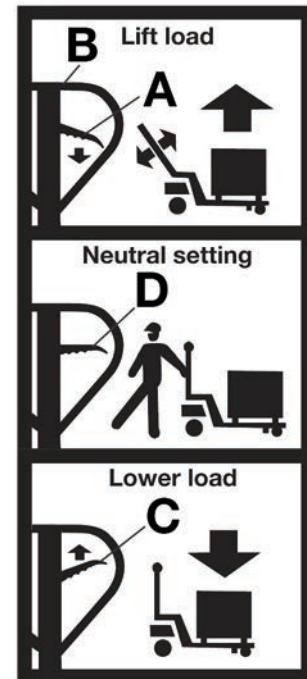
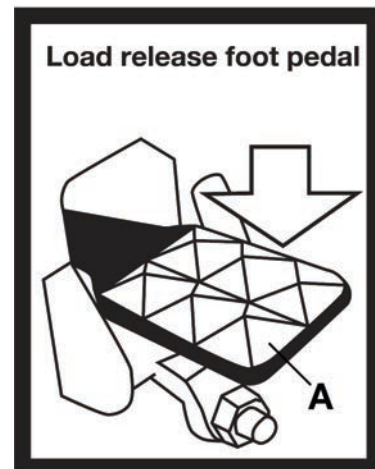

FIGURE 1
FIGURE 2
To raise the forks, push the lift/neutral/lower control lever (A) Fig.1 down to the "lift" position and pump the directional/pump control handle (B) to lift the forks to the desired height.
To lower the forks, pull the lift/neutral/lower control lever (C) Fig.1 up to the "lower" position. A quick release lowering foot pedal (A) Fig.2 can also be used to quickly lower the forks.
To freely move the directional/pump control handle (B) Fig.1, set the lift/neutral/lower control lever (D) Fig.1 in the centre neutral position.
- 3) Push the lift/neutral/lower control lever (A) Fig.1 down to the "lift" position.
- 4) Pump the directional/pump control handle (B) Fig.1 to lift the forks to the desired height.
- 1) Push the lift/neutral/lower control lever (D) Fig.1 in the centre neutral position.
- 1) Pull the lift/neutral/lower control lever (C) Fig.1 up to the "lower" position.
A quick release lowering foot pedal (A) Fig.2 can also be used to quickly lower the forks.
Air may get into the hydraulic system due to transportation or pump placed in a non-operating position. This will cause the forks to not lift while pumping the handle in the "lift" position. Bleed the air in the following manner; move lift/neutral/lower control lever (C) Fig.1 up to the "lower" position and pump the directional/pump control handle (B) Fig.1 several times.